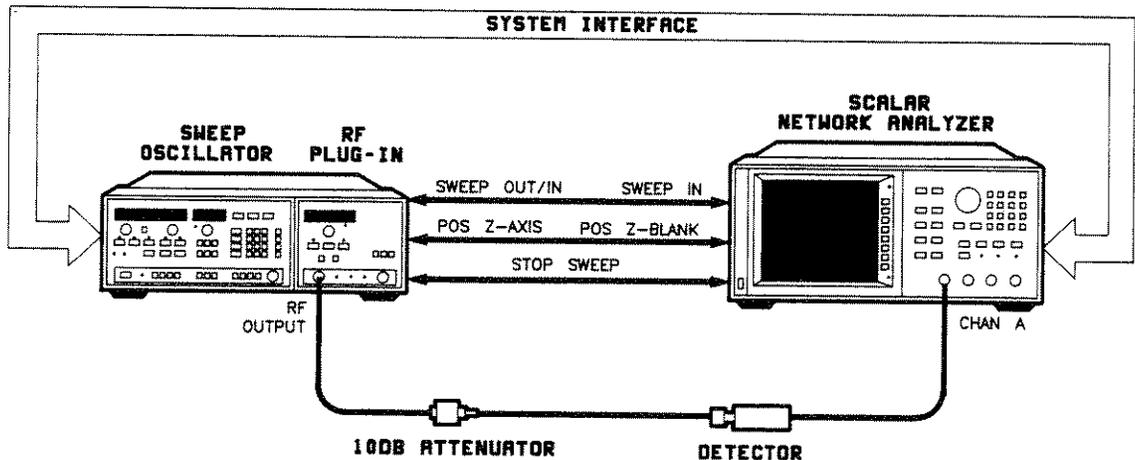

Figure 5-45. Power Sweep Adjustment Test Setup
1. Connect the equipment as shown in figure 5-45.